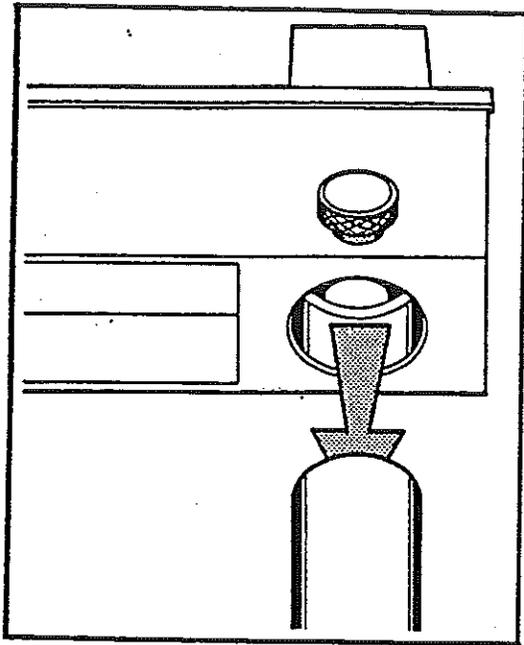

Fig. 2
- (b) Slide the camera onto the slit flash projector (Fig. 2). Secure locking knob (moderate pressure) on front right of camera.